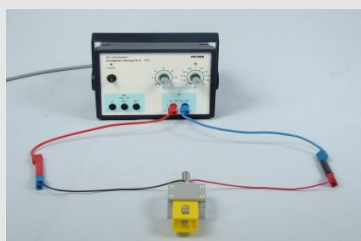

Figure 2
2. Connect the thermocouple to the power supply unit via the double sockets (Fig. 2).